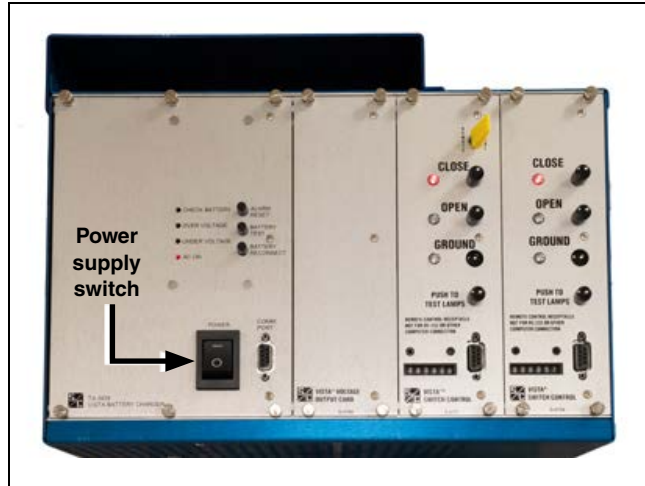
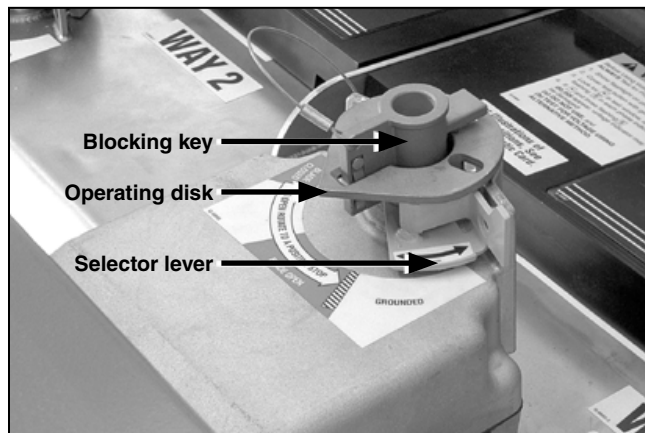
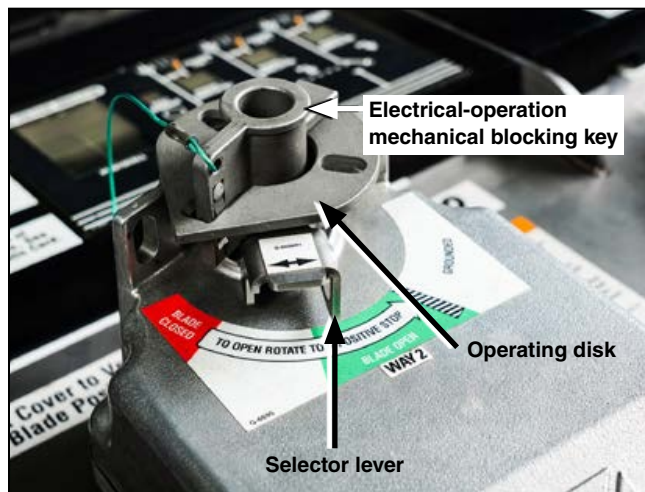

Figure 40. The Vista switchgear rack with CLOSED, OPEN, GROUND LEDs and controls.
Figure 41. The OPEN position indication on motor operator.
Figure 42. The CLOSE indication on motor control board matches motor operator position.
- STEP 1.** When all of the preceding steps have been successfully completed, turn on the power supply power switch. See Figure 40. This will connect ac power to the battery charger and to the motor operator controls.
- STEP 2.** The motor operator controls will indicate the correct position of the motor operators and mechanism operating shafts via LEDs on the front panel assembly. See Figure 40, Figure 41, and Figure 42.